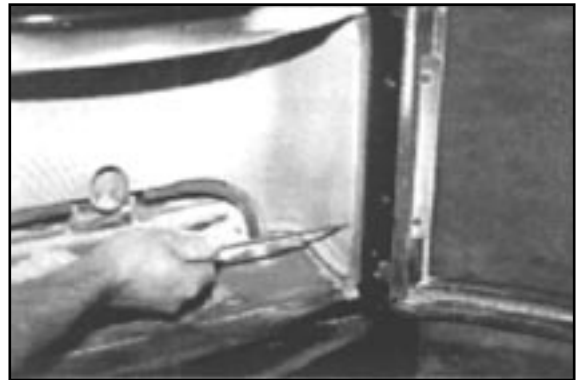
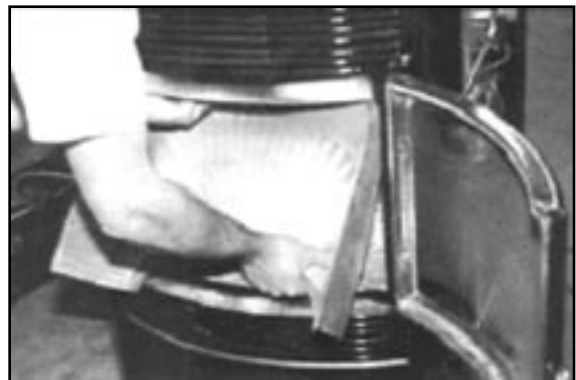

fig. 27
fig. 28
e) Monthly, or whenever necessary, we suggest to provide for a complete cleaning of the combustion chamber. To do this, unscrew the four screws on the side of the chamber wall (Fig.27) and remove it (Fig.28). Now scrape as described before by using the equipped tool and then vacuum all the deposited ashes between the stainless steel tubes (Fig.29)